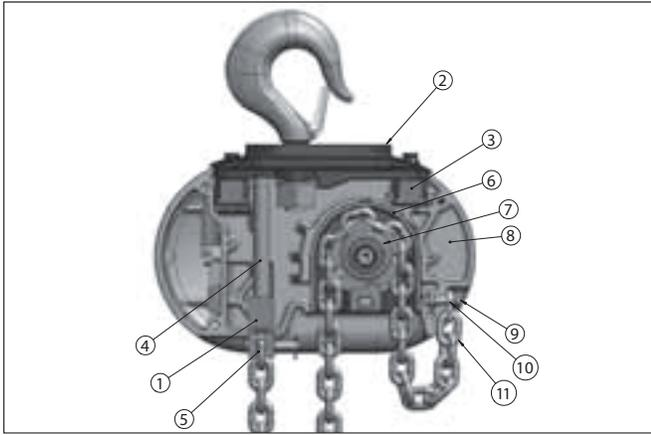

Figure 7. Attaching Load Chain Double Reeved Models
Remove the hook suspension, (2) suspension screws, (1) dead end pin, (1) washer, and (1) cotter pin from the packaging. It should be noted that the suspension includes a dead end bolt and block for supporting the dead end of the load chain as shown in Figure 7.
Place the suspension assembly into the recess on top of the hoist. The dead end block should project through the bottom of the hoist with the pin hole and slot aligned to the underside of the hoist as shown in Figure 7. If these are not aligned as shown, lift the head of the bolt from the hex recess in the adapter and turn the bolt and block assembly and reseal the bolt head to obtain the proper alignment. Do not change the position of the dead end block on the bolt to attain this alignment.
The dead end of the load chain is temporarily positioned (a few links from the end) by a wire tie. Do not remove this tie before attaching the chain to the dead end block. (See Fig. 7)